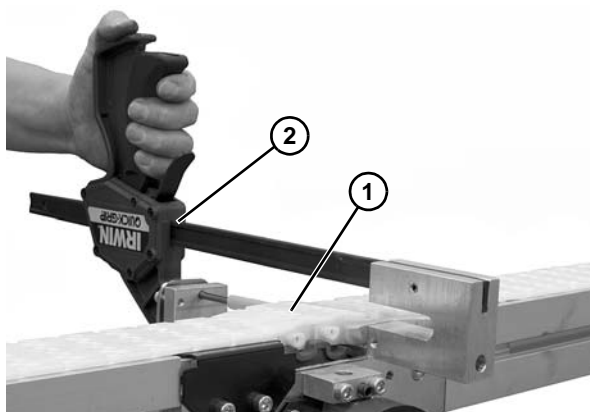

Figure 68
4. Install belt around conveyor ends and bring the ends of the belt (**Figure 68, item 1**) together.
5. Insert the belt rod. Use a punch and hammer or belt removal tool #203480 (**Figure 68, item 2**) to press pin just below flush with side of belt. Stop when pin detent is felt.